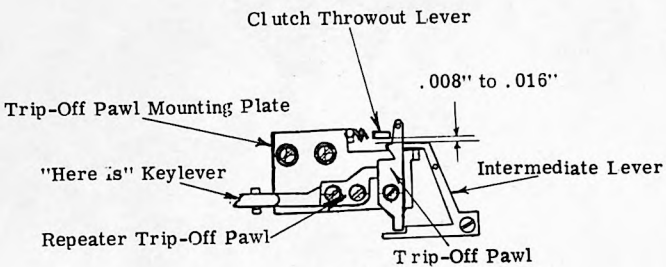

Figure 3
1.8 Trip-Off Pawl (Figure 3)
- 1.11      Intermediate Lever Stop Plate (Figure 3)